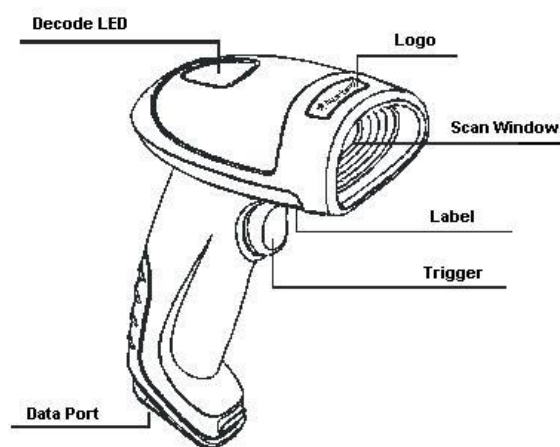

Fig. 1-1
1. Plug the RJ45 connector into the data port (see Fig.1-1) on the Merlin corded scanner.
- ✧ Press and hold the Trigger (see Fig.1-1). Then the scanner will project a red aiming beam.